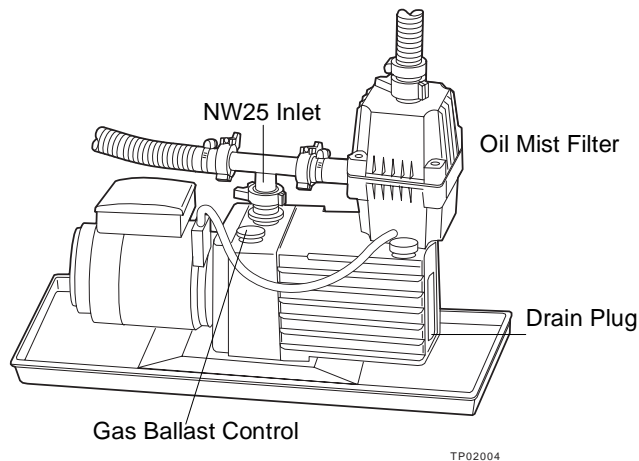
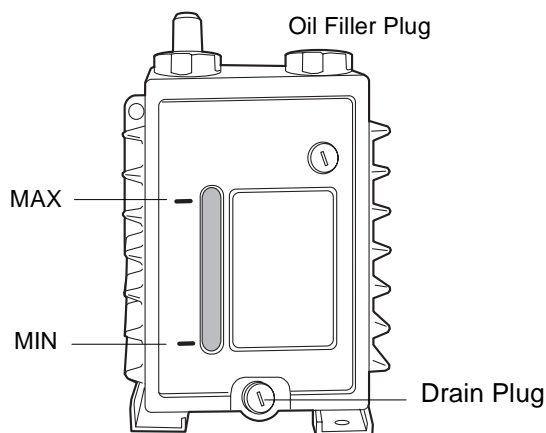

Figure 5-1 Rotary Pump Assembly Fitted with Oil Mist Filter
Figure 5-2 Rotary Pump Oil Filler Plug, Drain Plug, and Sight Glass
Refer to Figure 5-1 and Figure 5-2 when performing the following procedure.
1. Shut the vacuum system isolation valve, moving its handle fully to the right (Figure 5-1).